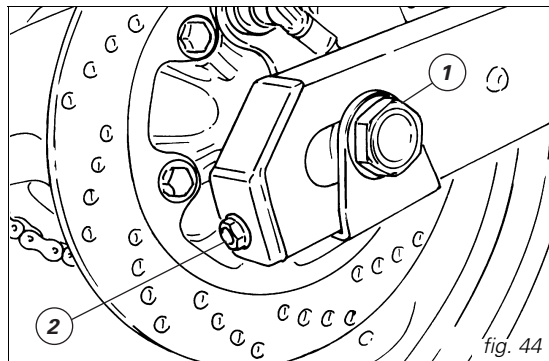

fig. 44
Slacken the nut (1, fig. 44) of the wheel shaft, tighten (turn clockwise) or slacken the screw (2) on either side of the swingarm equally to increase or reduce chain tension. If you are slackening the chain, you will have to push the wheel forward.